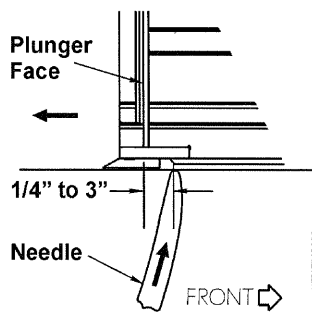
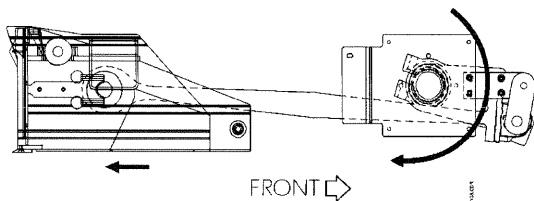

Fig. 11
Fig. 12
A. Trip the knotter clutch by raising the trip bar until the notch is positioned over the knurl, and turn the flywheel clockwise until the tips of the needles are even with the bottom of the bale chamber, *Fig. 11*.
B. The plunger face must be 1/4" to 3" past the tips of the needles *Fig. 11*, as they are entering the chamber area and the plunger is on the compression stroke, *Fig. 12*. The needles are late if the plunger face is more than 3" past the tips of the needles and the needles are early if they are less than 1/4" past the plunger face.